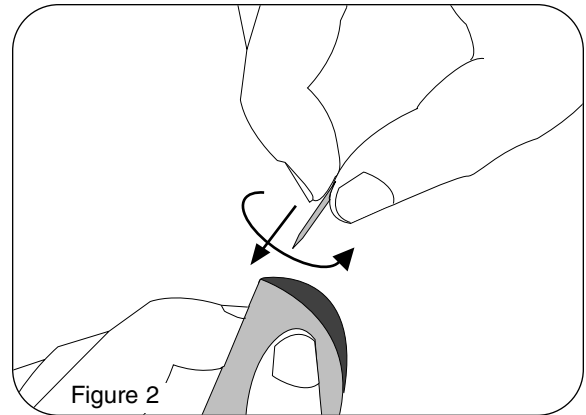

Figure 2
4. Place the side of the electrode tip on the polishing film. Rotate the electrode until all residue is removed (Figure 2). Afterward, clean the entire shaft of the electrode with the polishing film.